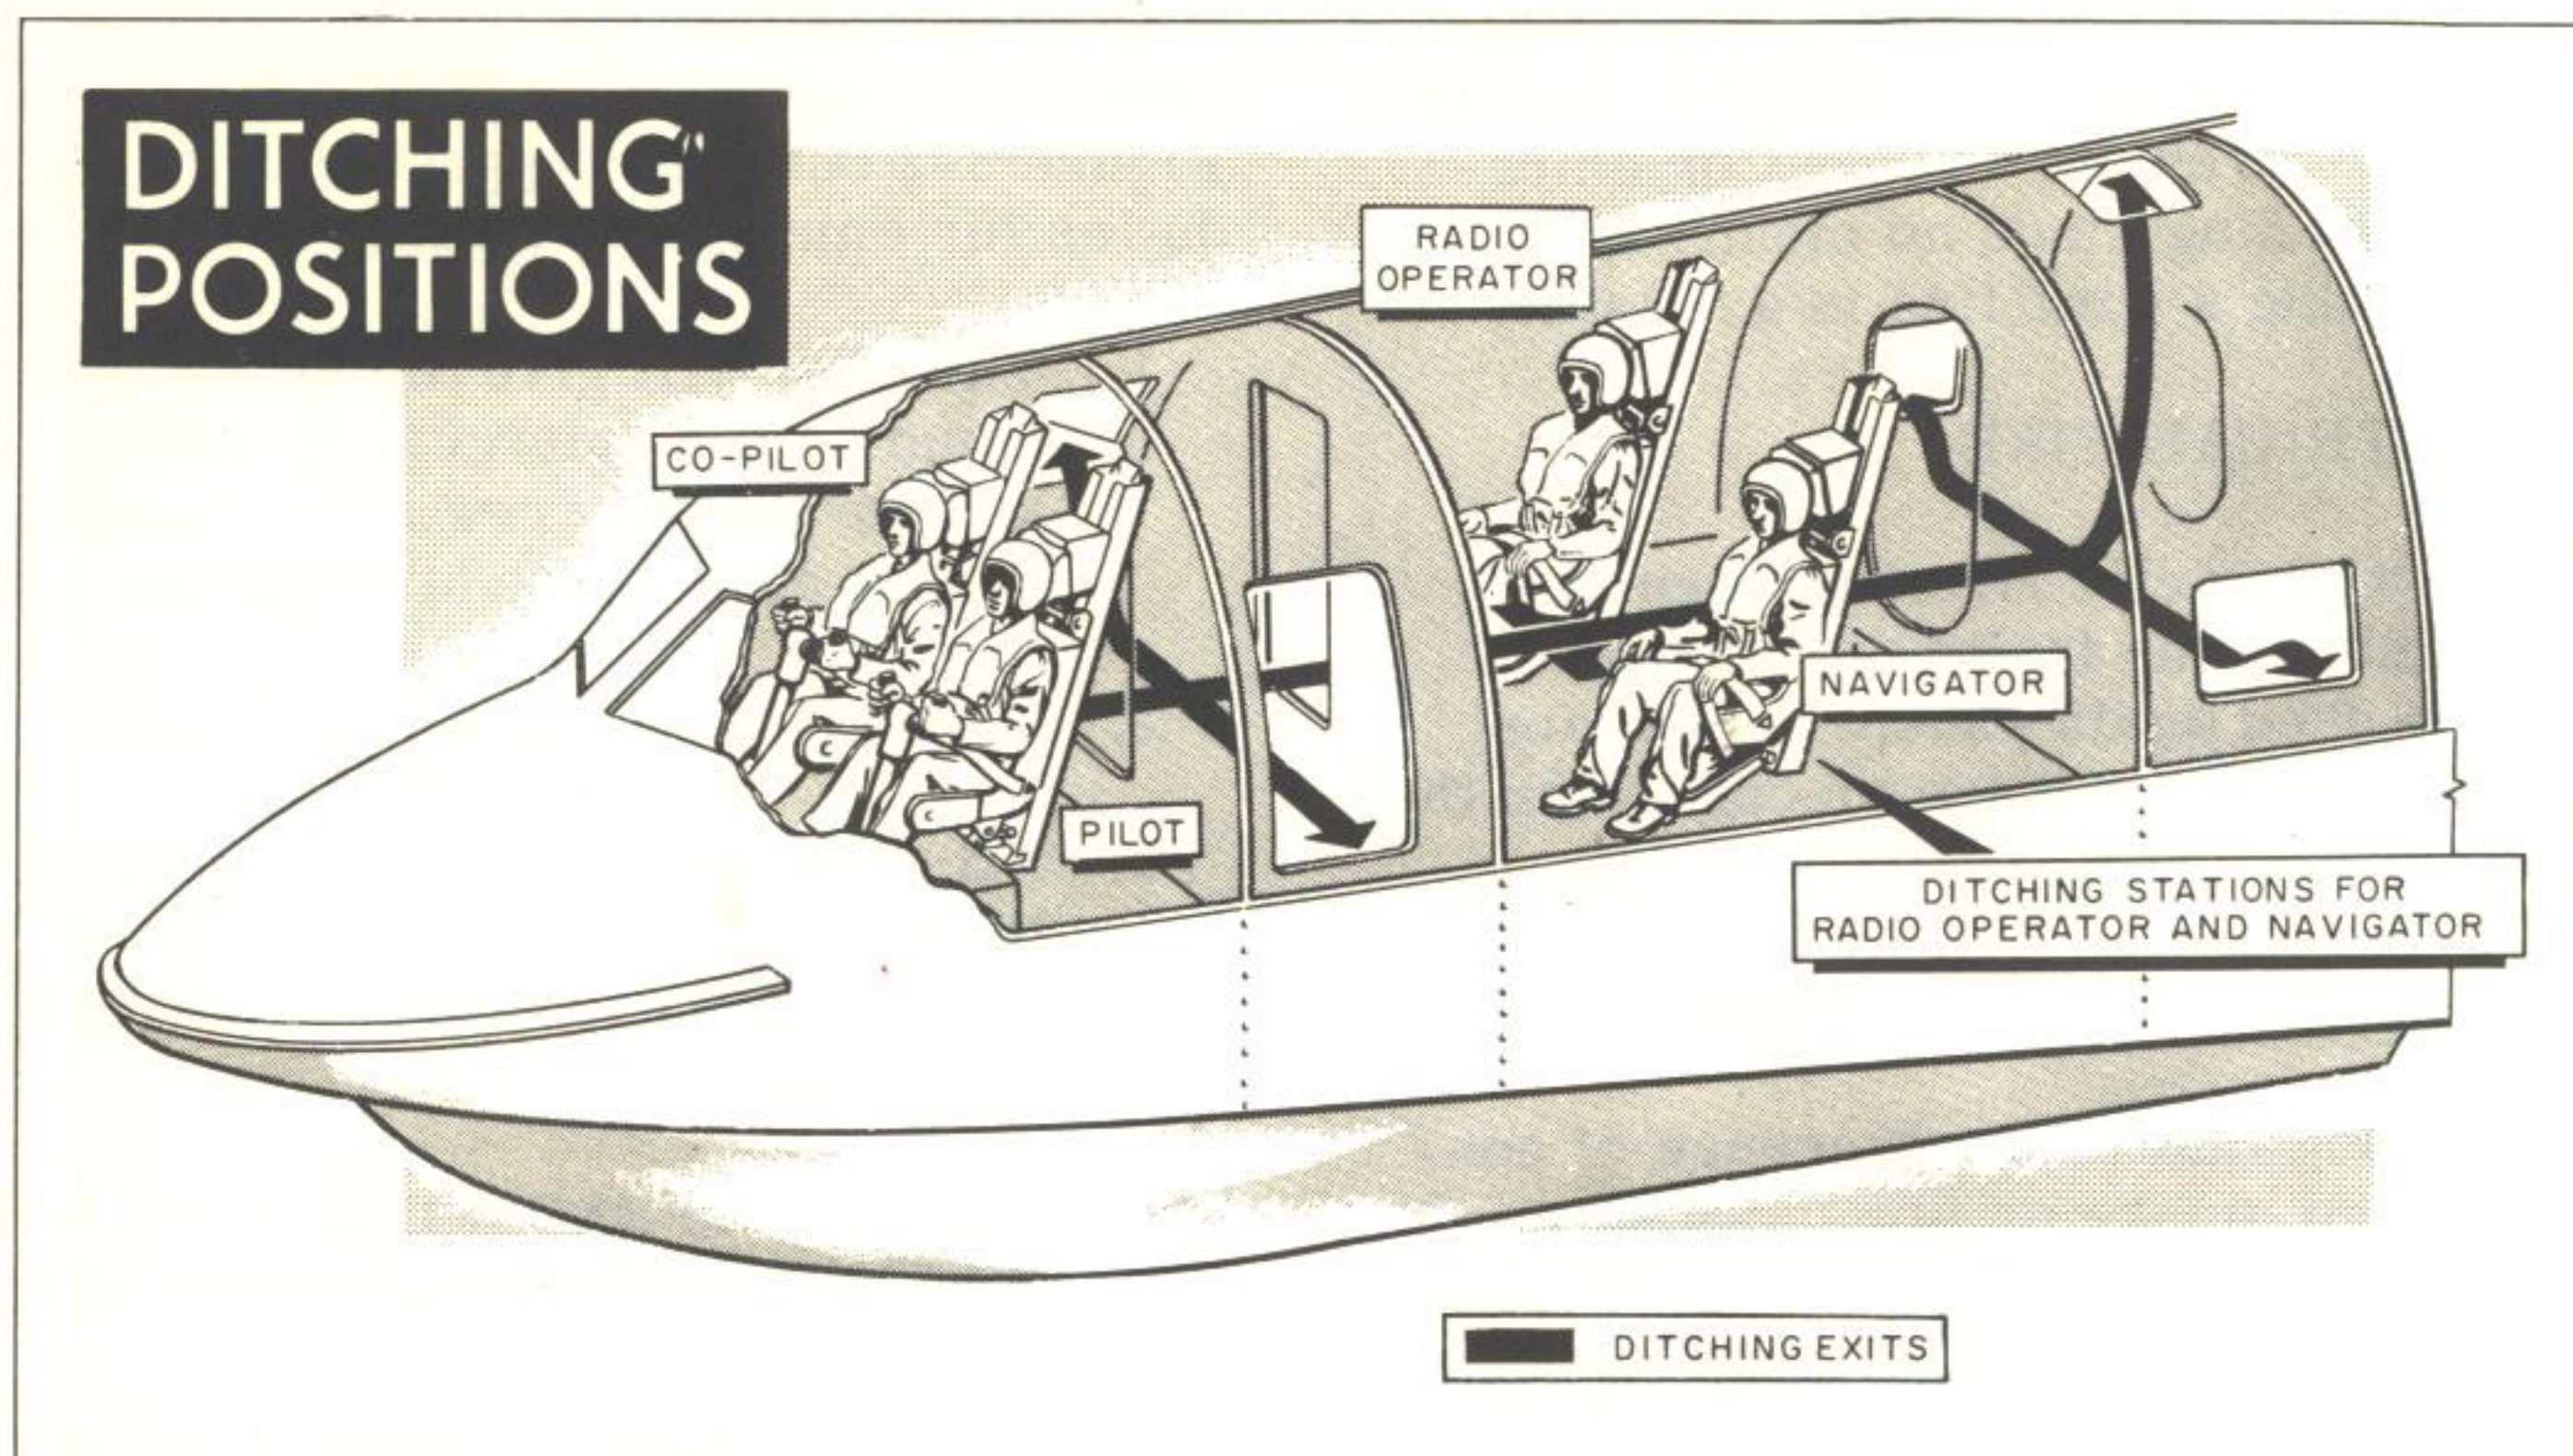

Figure 3-3
3. All crew members will remain in their seats. Attach and tighten safety belts and shoulder harnesses. (See figure 3-3.)